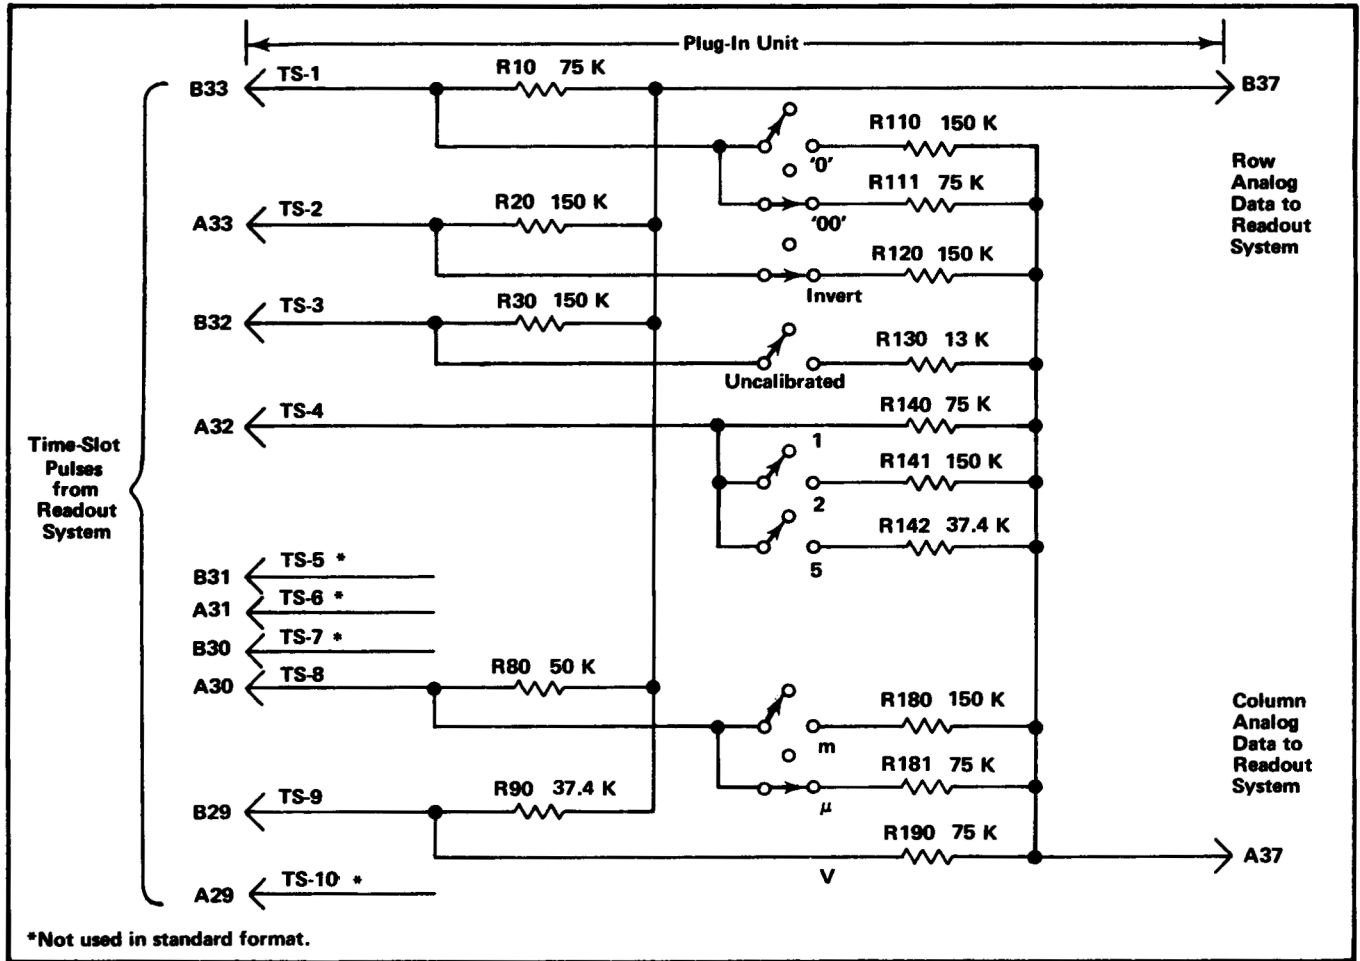
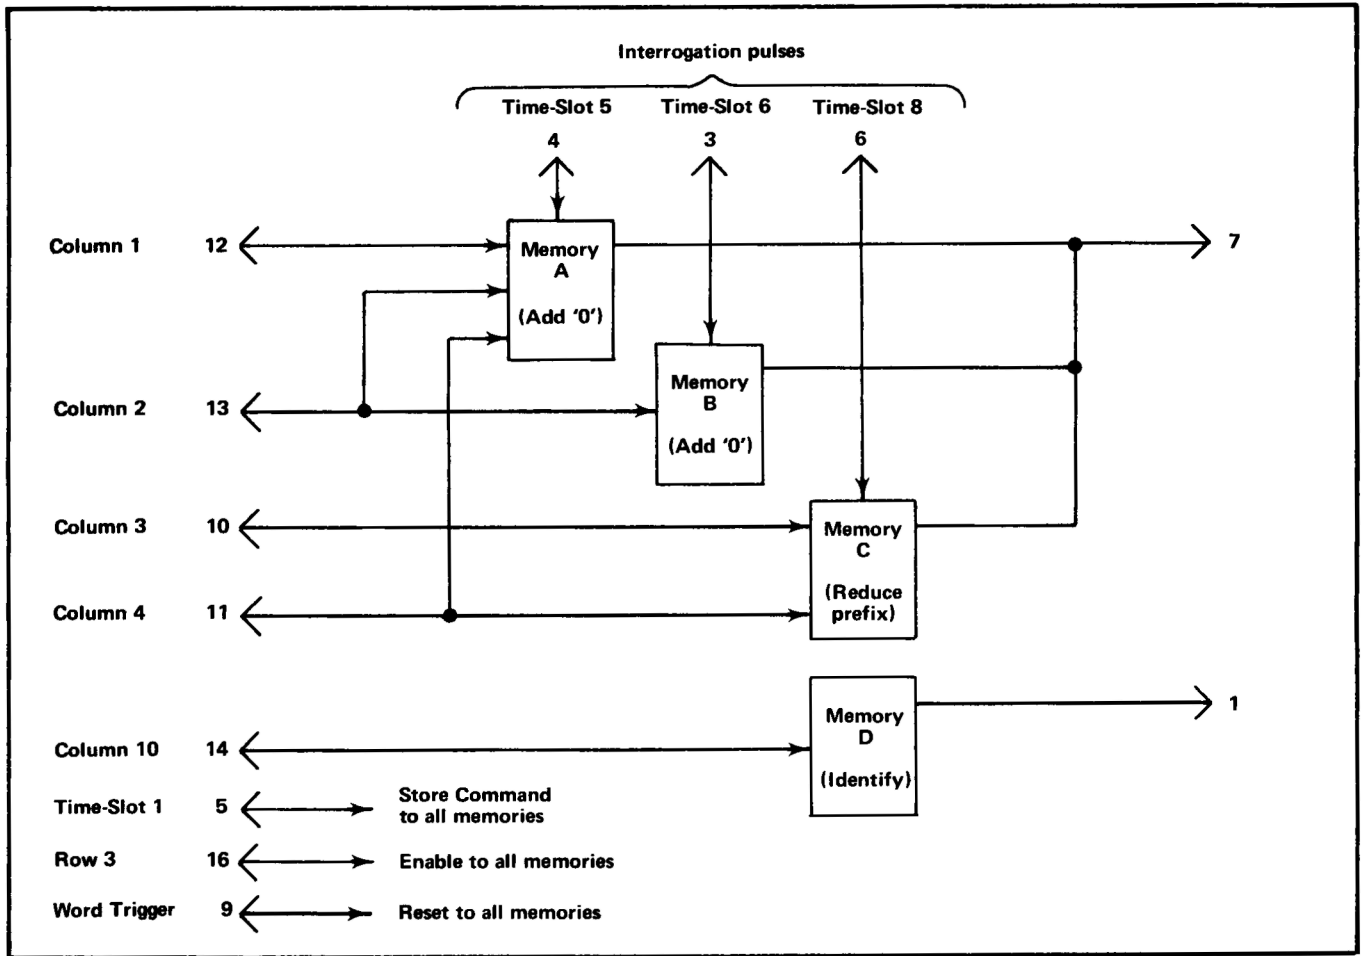
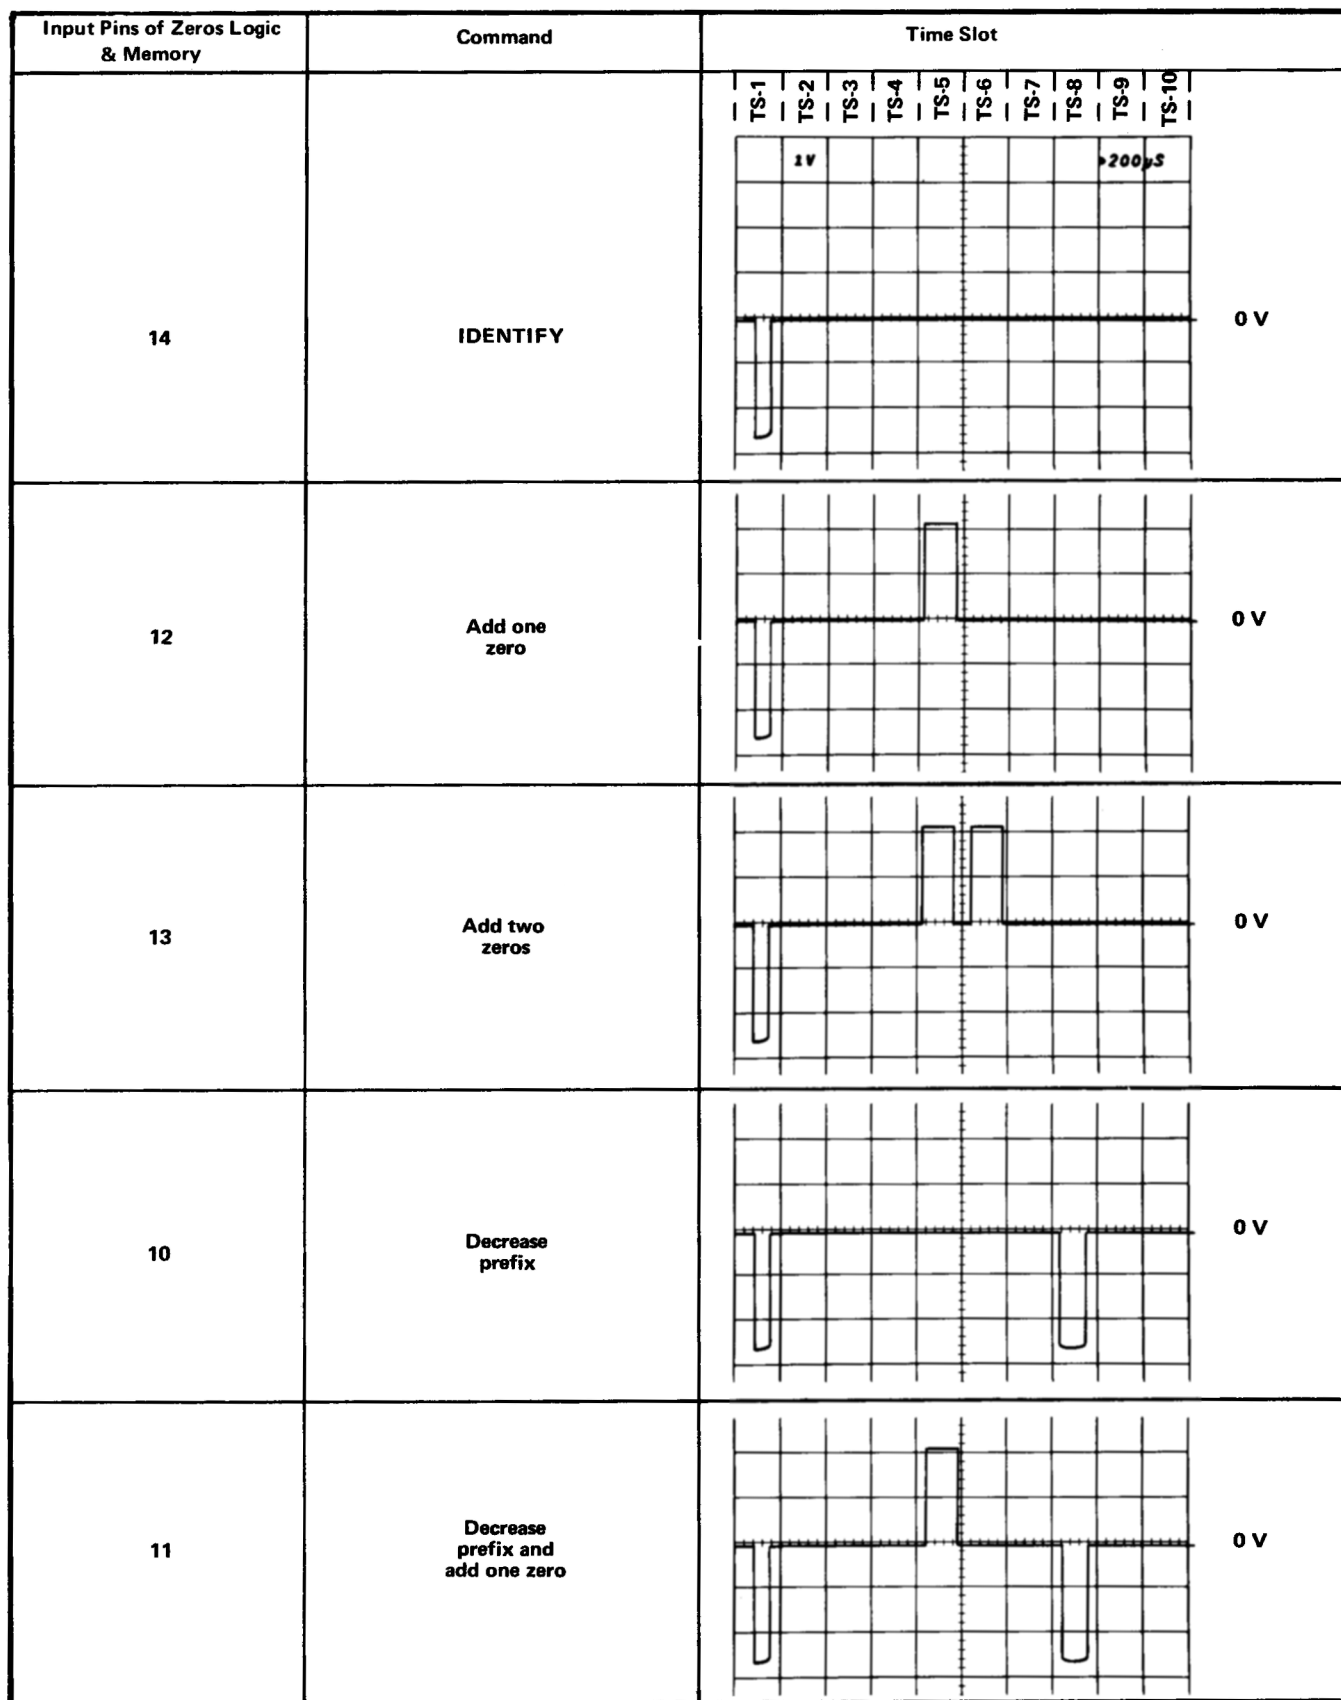

Fig. 3-32. Typical encoding scheme for voltage-sensing amplifier plug-in unit. Coding shown for deflection factor of 100 microvolts.
Fig. 3-34. Block representation of memory sequence in U2232.
Fig. 3-35. Typical output waveforms for Zeros Logic and Memory stage operation (at pin 7 of U2232).
Data is conveyed from the plug-in units to the Readout System in the form of an analog code having up to 11 current levels (from zero to one milliamperes in 100 microampere steps). The characters which can be selected by the encoded data are shown on the Character Selection Matrix (see Fig. 3-25). Each character requires two currents to define it; these currents are identified as the column current and the row current which correspond to the column and row of the matrix. The column and row data is encoded by resistive programming in the plug-in units. Fig. 3-32 shows a typical encoding scheme for a voltage-sensing amplifier plug-in unit. Notice that the 10 time-slot (TS) pulses produced by the Time-Slot Counter stage are connected to the plug-in unit. However, time-slots 5, 6, 7, and 10 are not used by the plug-in unit to encode data when using the Standard Readout Format (see Table 3-2 for Standard Readout Format). The amplitude of the time-slot pulses is exactly -15 volts as determined by the Timer stage. Therefore, the resultant output current from the plug-in units can be accurately controlled by the programming resistors in the plug-in units.
For example, in Fig. 3-32, resistors R10 through R90 control the row analog data which is connected back to the Readout System. These resistors are of fixed value and define the format in which the information will be presented by the Readout System. Fig. 3-33A shows an idealized output current waveform of row analog data which results from the 10 time-slot pulses. Each of the steps of current shown in these waveforms corresponds to 100 microamperes of current. The row numbers on the left-hand side of the waveform correspond to the rows in the Character Selection Matrix shown in Fig. 3-35. The row analog data is connected back to the Readout System via terminal B37 of the plug-in interface.
The Column analog data is defined by resistors R110 through R190. The program resistors are connected to the time-slot lines by switch closures to encode the desired data. The data as encoded by the circuit shown in Fig. 3-32 indicates a 100 microvolt sensitivity with the display inverted and calibrated vertical deflection factors. This results in the idealized output current waveforms shown in Fig. 3-33B at the column analog data output, terminal A37 of the plug-in interface. Resistor R111, connected between time-slot 1 and the column analog data output, encodes two units of current during time-slot 1. Referring to the
connectors of vertical plug-in units. A special coding ring around the input connector of the plug-in unit senses the attenuation ratio of the probe (with readout-coded probes only). The probe contains a resistor which results in additional column current. For example, if a 10X attenuator probe is connected to a plug-in with the coding for 100 microvolts as shown in Fig. 3-32, an additional unit of current is added to the column analog data during time-slot 1. Since two units of current were encoded by R111 (see Fig. 3-32), this additional current results in a total of three units of column analog current during this time-slot. Referring to the Character Selection Matrix, three units of column current along with the two units of row current encoded by R10 indicates that the prefix should be reduced. Since this instruction occurs in the same time-slot which previously indicated that two zeros should be added to the display and only one instruction can be encoded during a time-slot, the zeros do not appear in the display. The CRT readout will now be changed to 1 mV (readout) program produced by plug-in same as for previous example.
The Zeros Logic and Memory stage U2232 stores data encoded by the plug-in units to provide zeros-adding and prefix-shifting logic for the Readout System. The Strobe pulse at pin 15 goes positive when the data has stabilized and can be inspected. This activates the Zeros Logic and Memory stage so it can store the encoded data. A block representation of the memory sequence is shown in Fig. 3-34. Typical output waveforms for the five possible input conditions that can occur are shown in Fig. 3-35. When time-slot 1 occurs, a store command is given to all of the